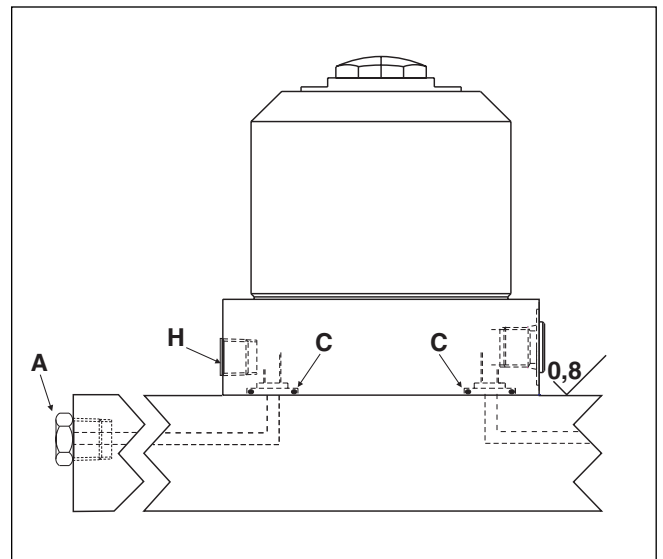

Figure 3 - Venting through manifold port / Hydraulic manifold mounting
3. Hydraulic connections can be made at the side port or at the manifold port. If making hydraulic connections at the manifold port, the port screw plug and copper gasket must first be removed from the hydraulic manifold port (item D). Lightly lubricate the provided O-ring (item C) and install it in the counterbore around the port prior to mounting and bolting down the work support (see figure 3). Be sure that the O-ring does not get pinched or damaged during this mounting as leakage could result. To ensure that the manifold mounting does not leak, provide a fixture mounting surface with a flatness within .003 inch (0,08 mm) and a surface roughness average (R_a) not to exceed 32 μin . (0,8 μm).
2. Venting can also be achieved using the optional manifold breather port (see figure 3).